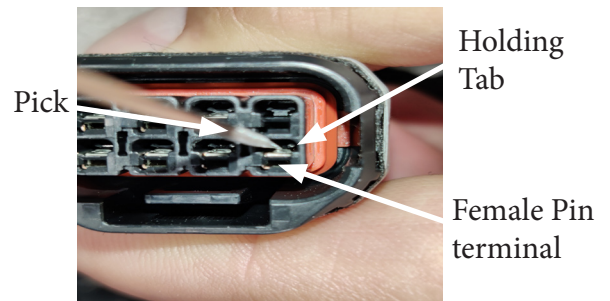
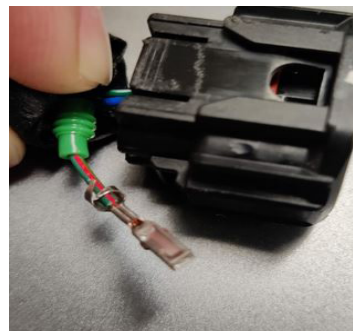

figure 18
figure 19
14. Moving on to the inside of the connector, using the same small pick, lift the holding tab (figure 18) and the female pin terminal will slide out the back of the connector (figure 19). Repeat until all female pin terminals have been removed from the connector. Again, keep note where each wire belongs.